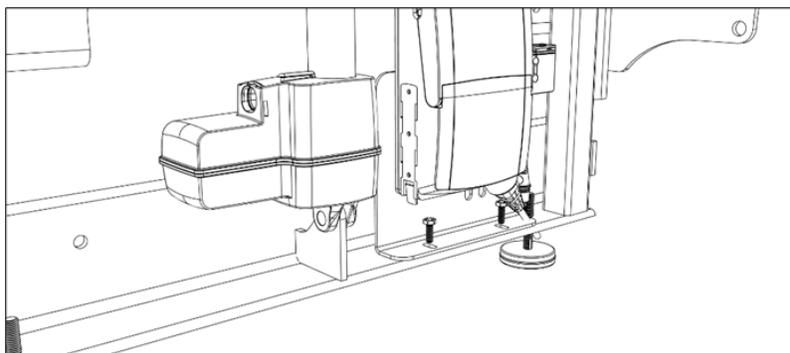

Figure 6 - Control Box Mount Bolt Location
- Remove the two (2) ¼" hex bolts that secure the control box mount to the frame (refer to Figure 6).